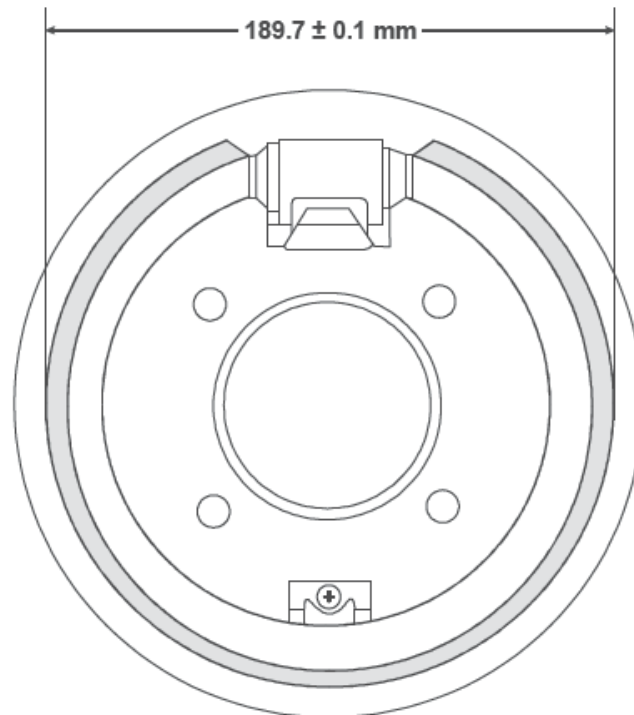

Figure 11 Park Brake Shoe Diameter – Adjustment
- Adjust the shoe diameter to 189.7 ± 0.1 mm (Figure 11).